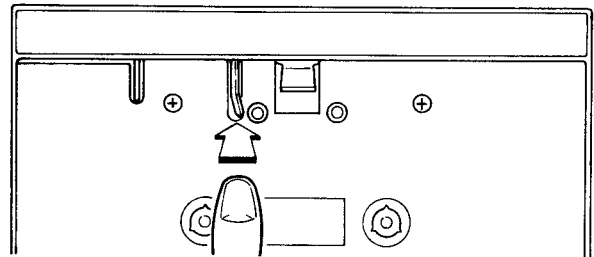

Fig. 5-2 Pressure Lever Lock Arm Location
2. Close the cassette holder with no tape loaded. Depress the pressure lever lock arm (see Fig. 5-2).
1. Depress the pressure lever lock arm (see Fig. 5-2). Load the check base plate jig in the cassette holder. Set the deck in the play mode.